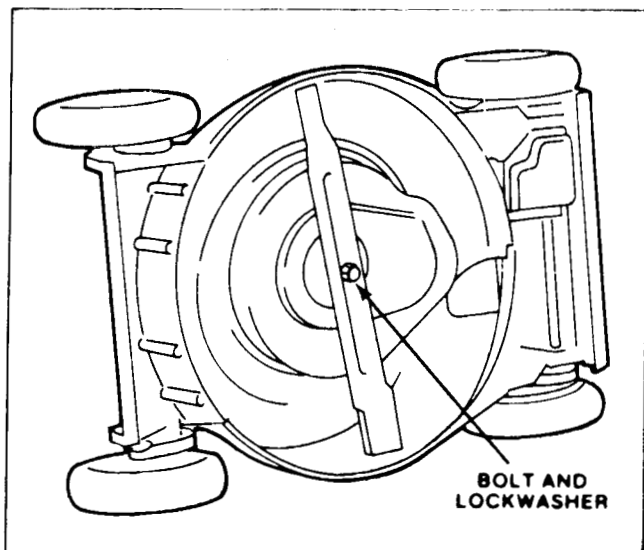

Figure 20
5. *Removing The Blade* - Grasp the end of the blade using a rag or thickly padded glove. Remove the fasteners and blade. See Figure 20.